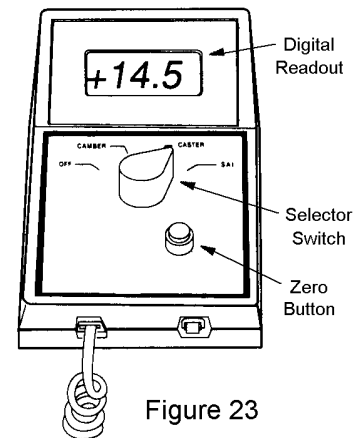

Figure 23
- 3) Set the selector to SAI. Press the Zero Button. (See Fig. 23)
- 6) Read SAI on the Digital Readout Scale (A positive 14.5 is indicated Fig. 23)